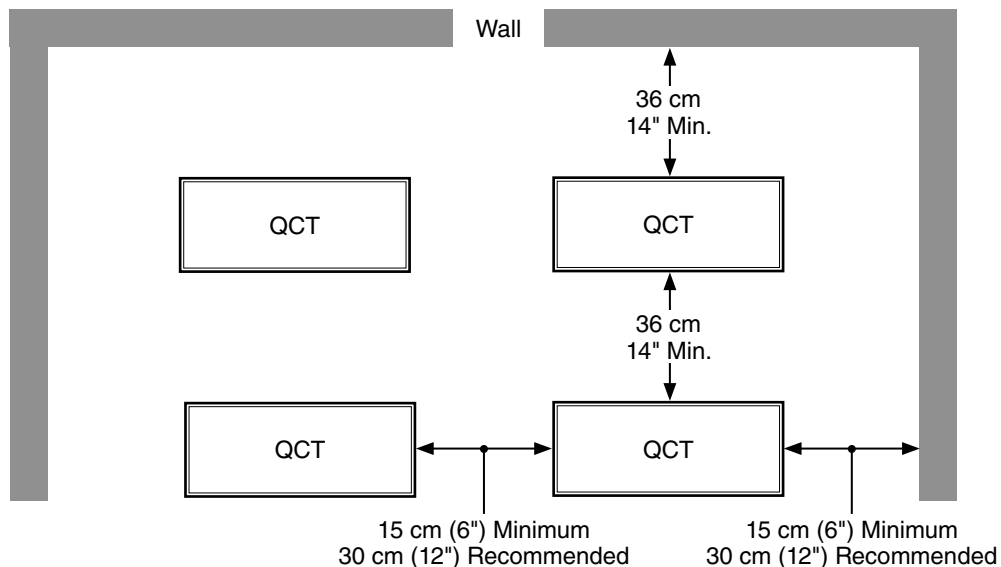

Figure 6.1b: Tester space requirements (top view).
- The testers should be positioned as shown in the Figure 6.1b schematic.